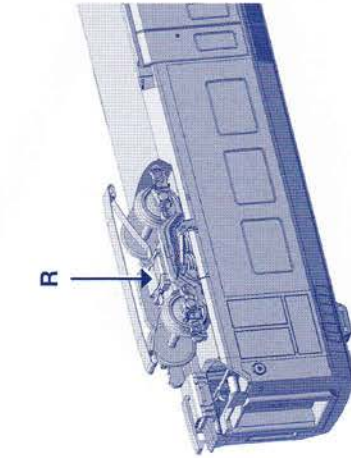
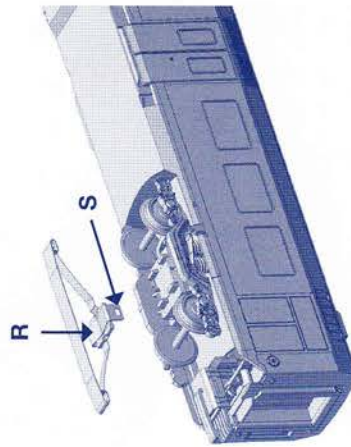

Figure 8
Figure 9
If you have decided on running your LILIPUT model using a central rail alternating current system, please observe the following: This model has a digital decoder installed (ESU Lokpilot) which can be used to power your vehicle either on an analogue basis (16 volt AC) or digitally. Please consult the instruction sheet supplied by ESU for details on how the decoder works. To collect current from the rail between traction rails, a slider has been installed on each of the articulated bogies of the end units. (Fig. 8) shows the installed slider and (Fig. 9) shows the slider installed with the retaining bracket (R). The retaining bracket snaps simply into two clip-in lugs. When taking apart, please press the retention arm (S) slightly outwards using a small screwdriver. Naturally the wheel profile of the wheel sets has also been adapted to the track system commonly in use.